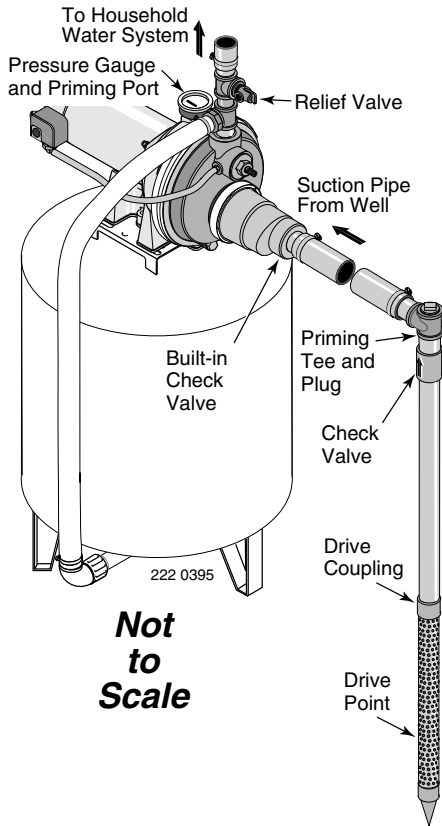

Figure 5: Driven Point Installation
WELL POINT INSTALLATION (Figure 5)
- Step 5. Use the fewest possible fittings (especially elbows) when connecting the pipe from the well point to the pump suction port. The suction pipe should be at least as large as the suction port on the pump (include a check valve – see Figure 5). Support the pipe so that there are no dips or sags in the pipe, so it doesn’t strain the pump body, and so that it slopes slightly upward from the well to the pump (high spots can cause air pockets which can air lock the pump). Seal the suction pipe joints with teflon tape or pipe joint compound approved for use on PVC. Joints must be air- and water-tight. If the suction pipe can suck air, the pump cannot pull water from the well. If one well point does not supply enough water, consider connecting two or three well points to one suction pipe.